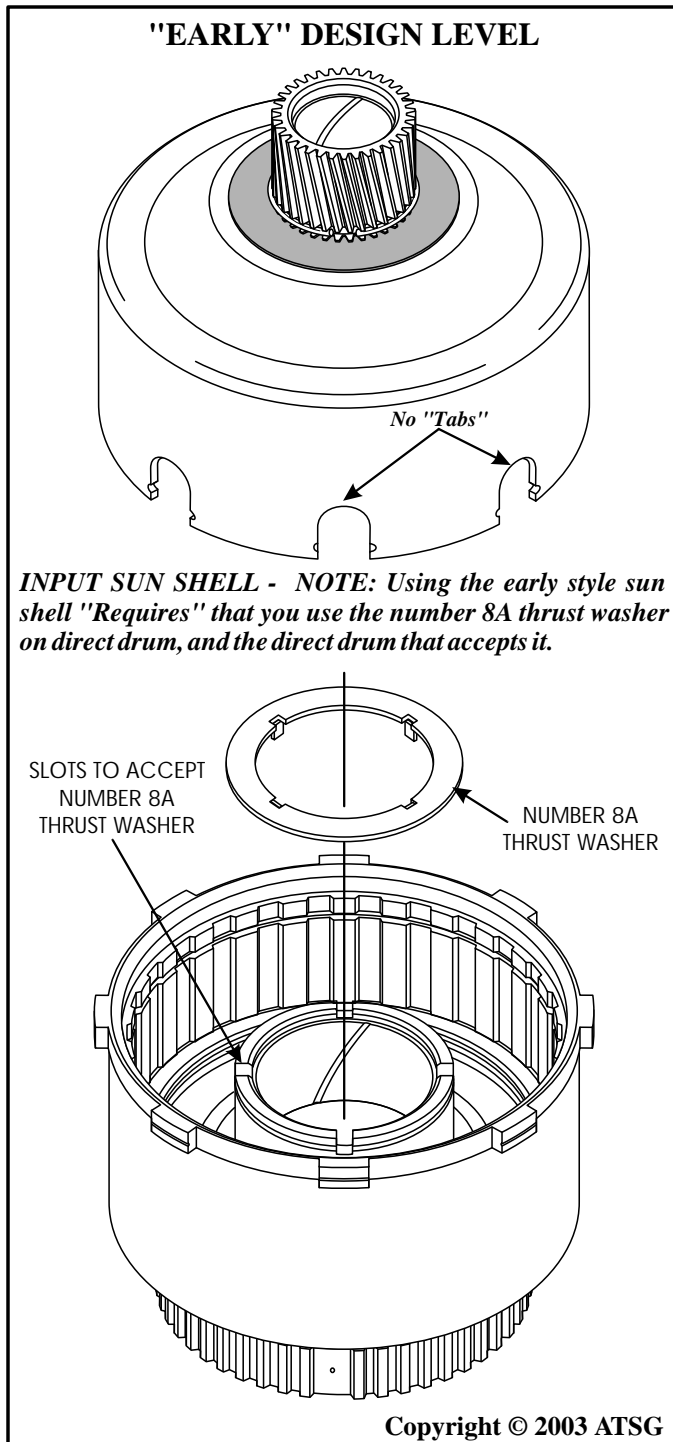

Figure 111
4. Refer to Figures 111 and 112 to ensure that you have compatible parts, especially if it was necessary to replace the sun shell or the direct clutch housing.
Note: Refer to Figures 111 and 112 for the information regarding the 8A thrust washer, and compatible parts.